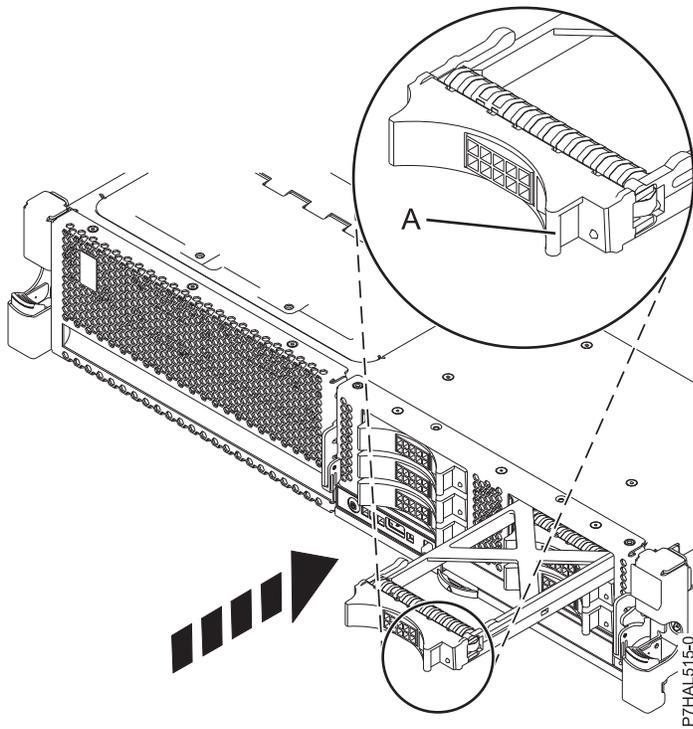

Figure 41. Installing a disk drive filler in the 8231-E2B, 8231-E1C, or 8231-E2C.
2. Slide the disk drive filler all the way into the system or expansion unit, and push the disk drive filler handle (A) until it locks, as shown in Figure 41 on page 91.